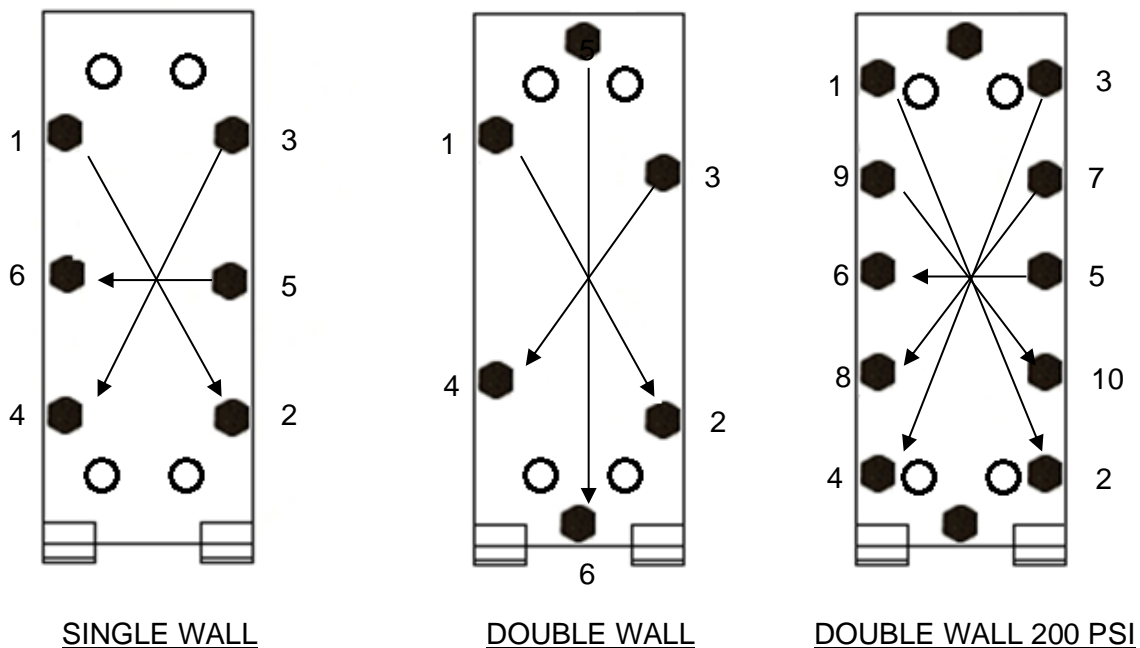

Figure 8-9. Required Bolt Loosening Pattern
11. Opening of the heat exchanger is now possible by loosening diagonally-opposite pairs (Figure 8-9). Opening must be carried out evenly so that the pressure plate is not out-of-parallel with the frame plate by more than 3/8" (2 turns per bolt) in the horizontal plane and 1" in the vertical plane.